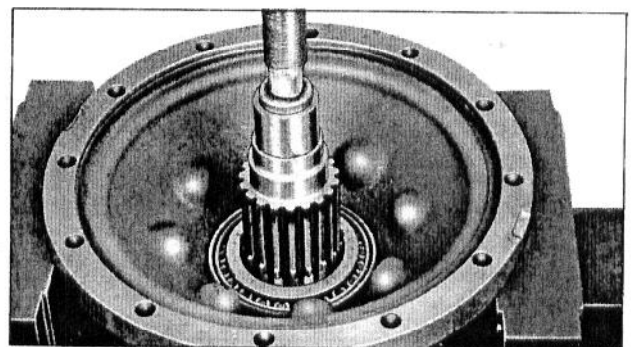

Fig. 94 - Wheel Axle Removal
6. Press the wheel axle from bearing cone as shown in Fig. 94.